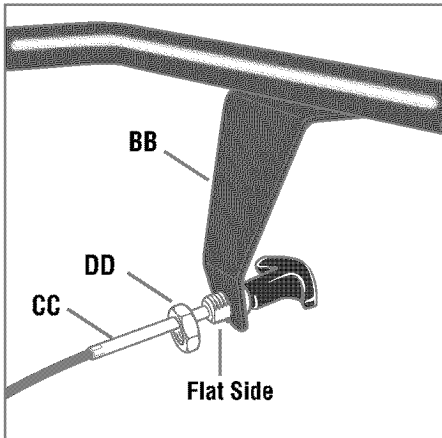
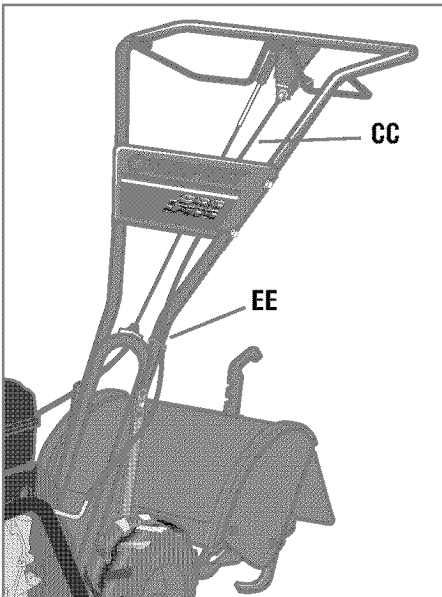

Fig. 2-8: Install reverse cable mounting bracket and the reverse clutch cable.
Fig. 2-9: Route reverse clutch cable (CC) as shown. Attach to handlebar with cable tie (EE).
1. Unwrap the reverse clutch cable (the cable with a knob and a large hex nut attached to it) from around its shipping position and route the cable (CC, Fig. 2-8 and Fig. 2-9) up to the cable bracket (BB, Fig. 2-8). Be sure that the cable goes beneath the Forward Clutch Bail as it is routed up to the cable bracket.
2. Insert the cable up through the slot in the cable bracket and position the threaded assembly as shown in Fig. 2-8. Make sure that the flat side of the threaded assembly is aligned with the flat side of the mounting hole. Slide the large hex nut (DD) up the cable and tighten it securely.
3. Use a cable tie (EE, Fig. 2-9) to fasten the reverse clutch cable to the left side handlebar.